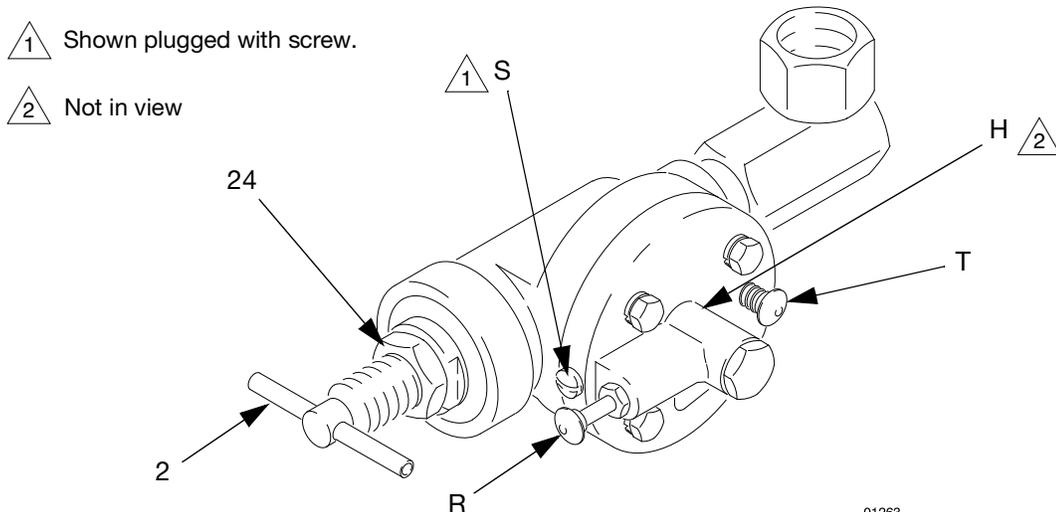

FIG. 33
1. Loosen the adjustment locknut (24). See FIG. 33.
2. Check that the T-handle (2) is turned all the way counterclockwise.